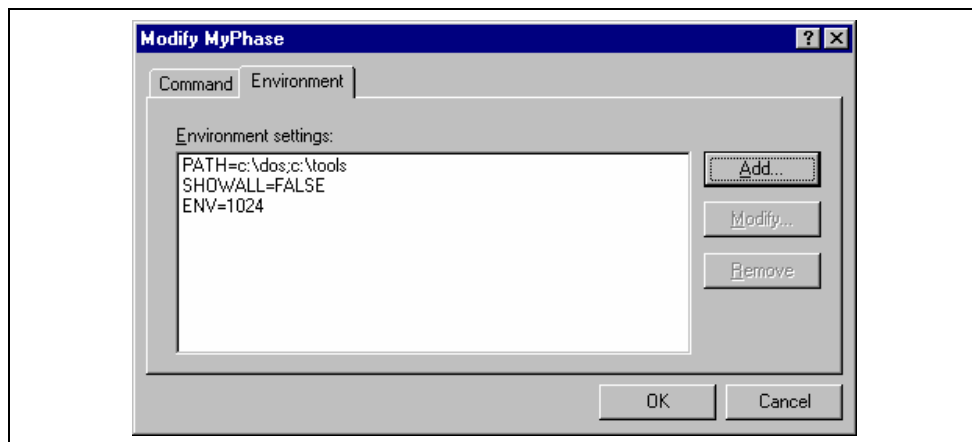

Figure 3.8: Modify Phase Dialog Environment Tab
5. Select the “Environment” tab (figure 3.8) to edit the environment settings for the phase.